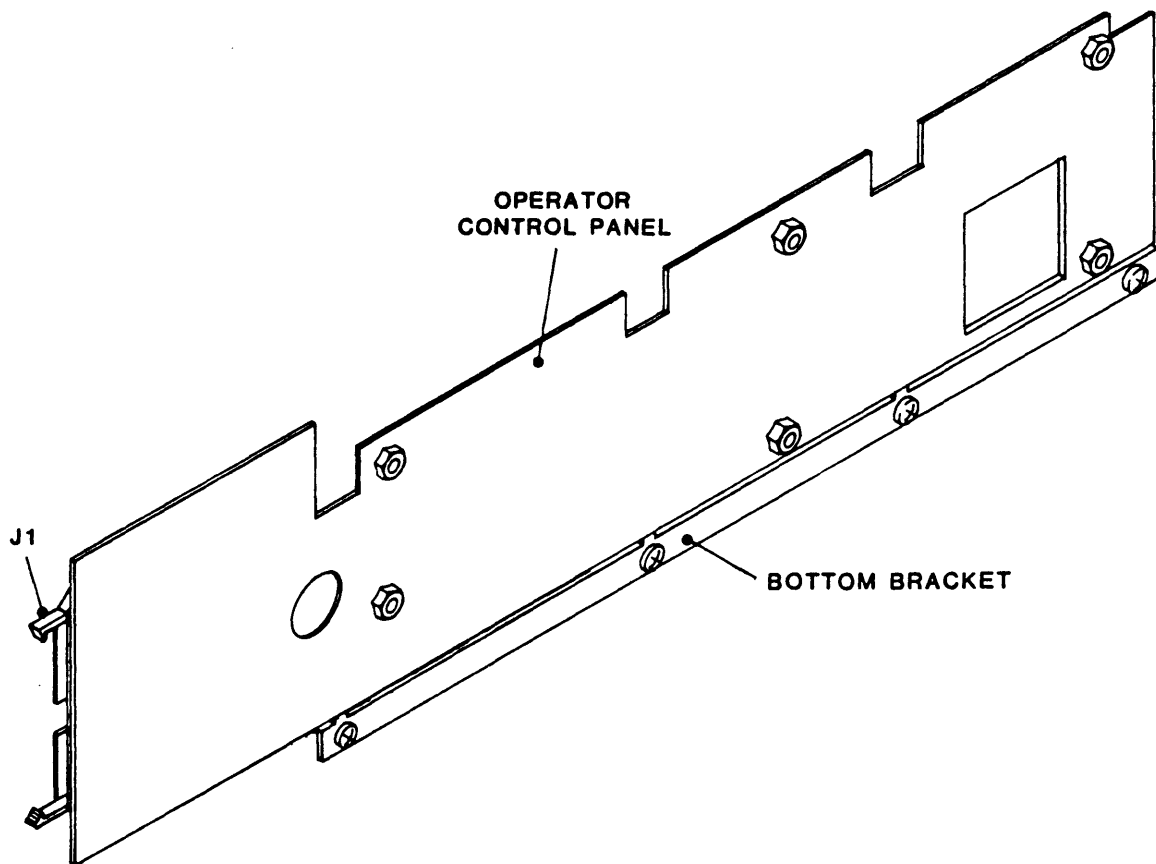

Figure 4-11 Operator Control Panel PCBA
4.3.10 OPERATOR CONTROL PANEL PCBA (Fig. 4-11)